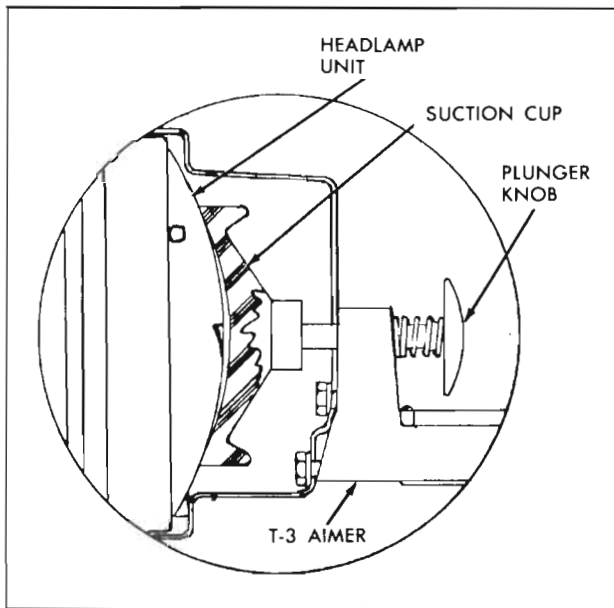

Figure 10-52—Attaching Aimer
3. Secure Safety Aimer to each headlamp unit by pressing plunger knob firmly. Rotate arm to approximately horizontal position. See Figure 10-52.